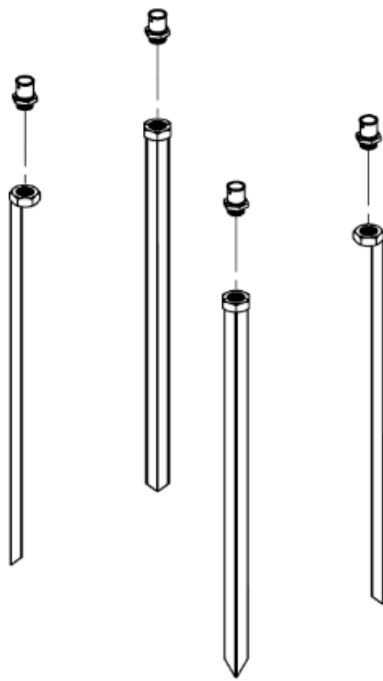

FIGURE 7
4. Using a 1 7/8" wrench, screw the 4 frangible fittings with socket (3) onto the tops of the 4 ground anchors until they are tight. **(FIGURE 7)**